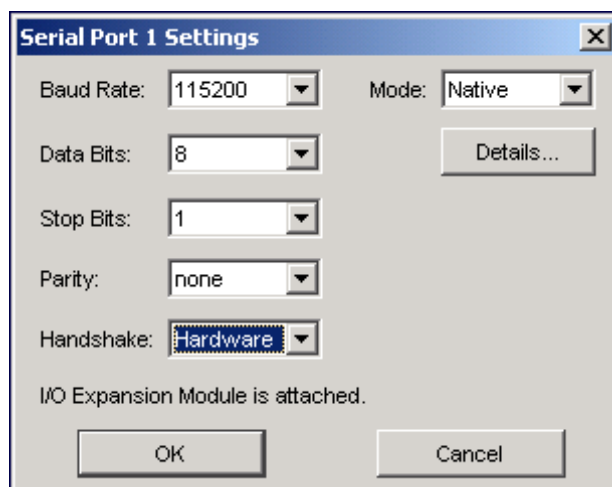

Figure 2-10: Serial Port Settings (In-Sight Explorer)
2. Select Hardware from the Handshake drop-down list (Figure 2-10).